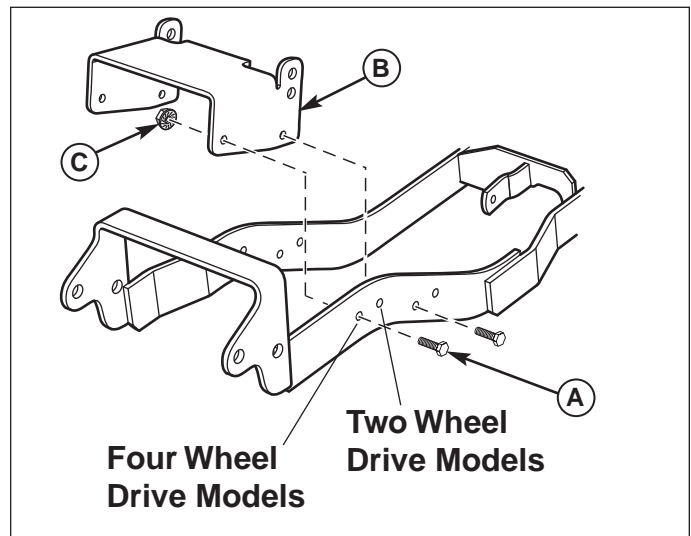

Figure 3. Assemble Push Bar Latch
1. Attach Push Bar Latch (B, Figure 3), to hitch. Secure with four .38-16 x 1 bolts (A), and four .38-16 flange nuts (C).